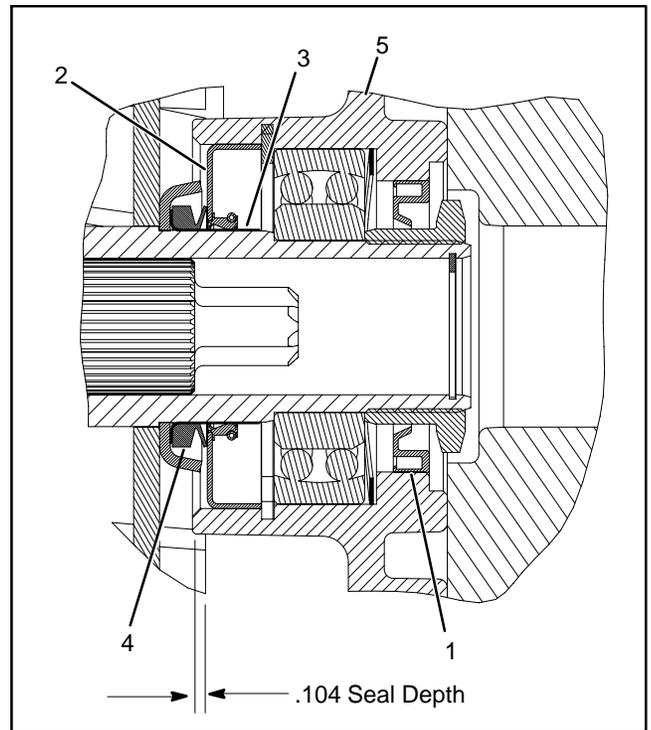

Figure 22
6. Pack the bearing (12) with Mobil High Temperature HP or equivalent grease. Insert the bearing into the side plate against the wave washer.
7. Press the retaining ring (14) into the groove, slightly compressing the bearing and wave washer.
8. Pack the cavity of the inner seal (13) with Mobil High Temperature HP or equivalent grease.
9. Using inner grease seal installation washer (Toro Part Number 104-0532) press the inner seal (13) into the side plate until the washer is flush with the outer edge of the side plate bore. Remove the washer. When properly installed, the seal should be positioned .104 in. below the inner edge of the side plate bore.
10. Press the outer seal (9) into the side plate until it is flush with the the outer edge of the side plate bore.
IMPORTANT: The outer grease seal (9) should be installed so the lip is facing out. This helps keep contamination from entering, and allows grease to vent or purge out if necessary (Fig. 22).
11. Fill remaining voids, behind inner grease seal (13) and outer grease seal (9) lips with Mobil High Temperature HP or equivalent grease.
5. Insert the O-ring (11) into the groove in the side plate. Apply a light coating of grease onto the O-ring, after it is installed.
6. Pack the bearing (12) with Mobil High Temperature HP or equivalent grease. Insert the bearing into the side plate until it is against the bottom of the bore.
7. Pack the cavity of the inner seal (13) with Mobil High Temperature HP or equivalent grease.
8. Using inner grease seal installation washer (Toro Part Number 104-0532) press the inner seal (13) into the side plate until the washer is flush with the outer edge of the side plate bore. Remove the washer. When properly installed, the seal should be positioned .104 in. below the inner edge of the side plate bore.
9. Press the outer seal (9) into the side plate until it is flush with the the outer edge of the side plate bore.
10. Fill remaining voids, behind inner grease seal (13) and outer grease seal (9) lips with Mobil High Temperature HP or equivalent grease.
5. Using an appropriate I.D. tube or sleeve, press the speedi sleeve onto the reel shaft until it bottoms out on the spider cup (Fig. 22).
6. Slide the V-ring onto the reel shaft with the thick shoulder of the V-ring facing inward (Fig. 22).
7. Fill the drive coupling (4) 1/2 to 1/3 full with Mobil High Temperature HP or equivalent grease. Also, coat the outside of the drive coupling with grease.
8. Install the retaining ring (5). Make sure it is seated into the groove.